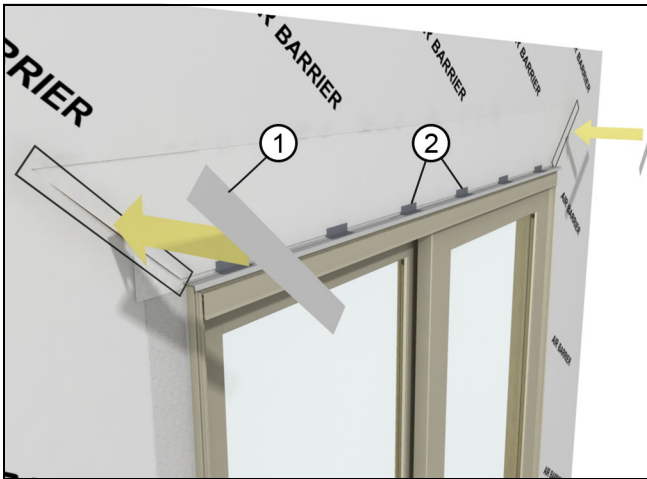

Figure 55
5. Fold the head jamb air barrier down over the head jamb flashing. Apply seam seal tape over the diagonal cut in the air barrier. Make sure the tape laps onto the unit or casing. Cut 3" (76) strips of tape and install every 12" (305) along the head jamb. Tape and seal any seams and fasteners directly above the unit. See Figure 55.